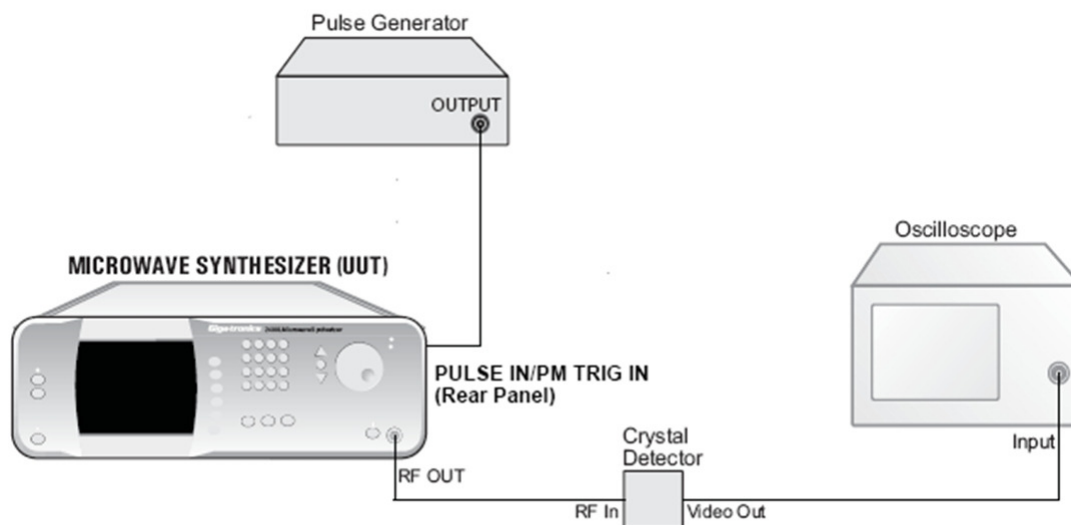

Figure 54: Pulse Modulation Rise and Fall Time Test
2.	Connect the equipment as shown in Figure 54 on page 123.